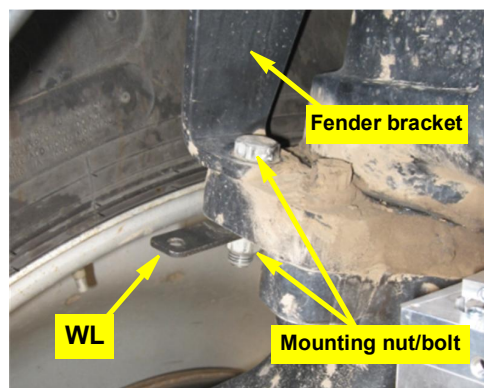

Figure 2c: WAS link rod bracket installed on fender bracket nut/bolt
c. Remove the nut from the right side front fender bracket bolt on the steering arm. Using this nut, mount WAS link rod bracket **WL** (Figure 2c). Ensure **WL** is pointing directly forward.